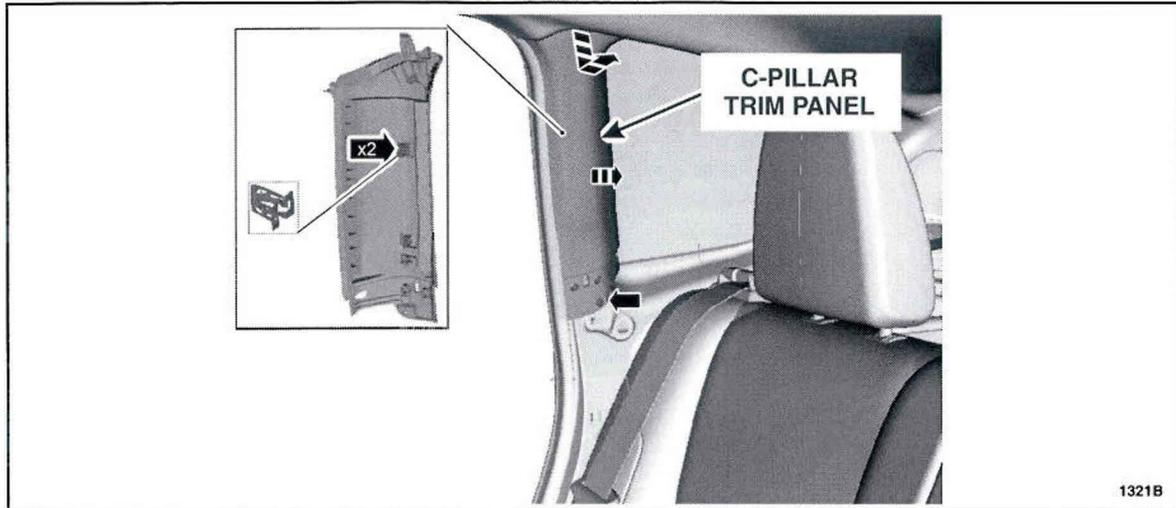

FIGURE 4
6. Remove the RH and LH C-pillar trim panels. See Figure 4.
30. Install the RH and LH C-pillar trim panels. See Figure 4.